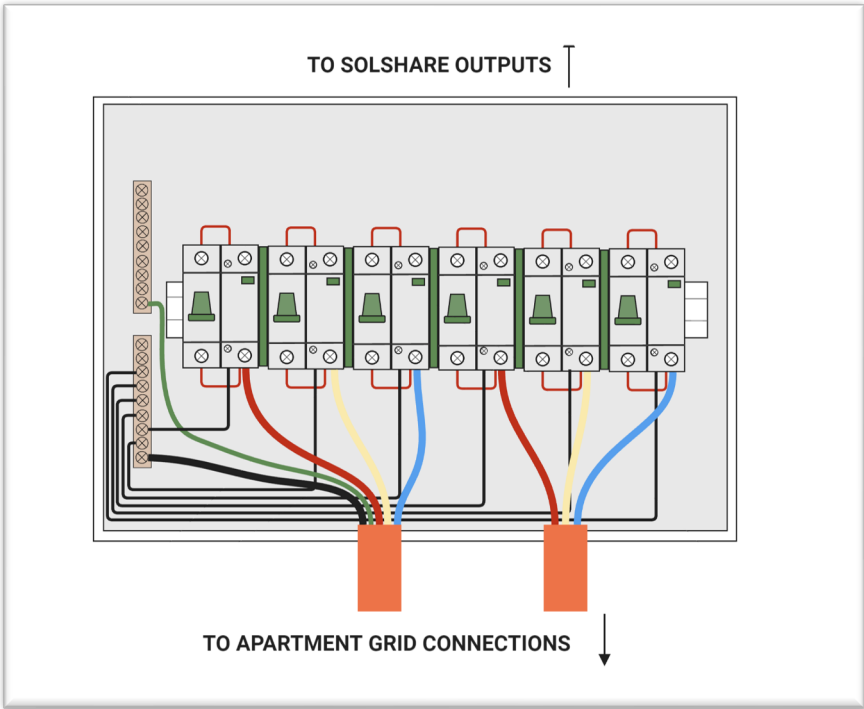

Figure 4. Isolation Box Internal wiring
- Wire the contactors and connect one for each SolShare output, as shown in *Figure 4*.
- Install the 9mm Din-rail spacers in between contactors to aid heat dissipation, as shown in *Figure 4*.